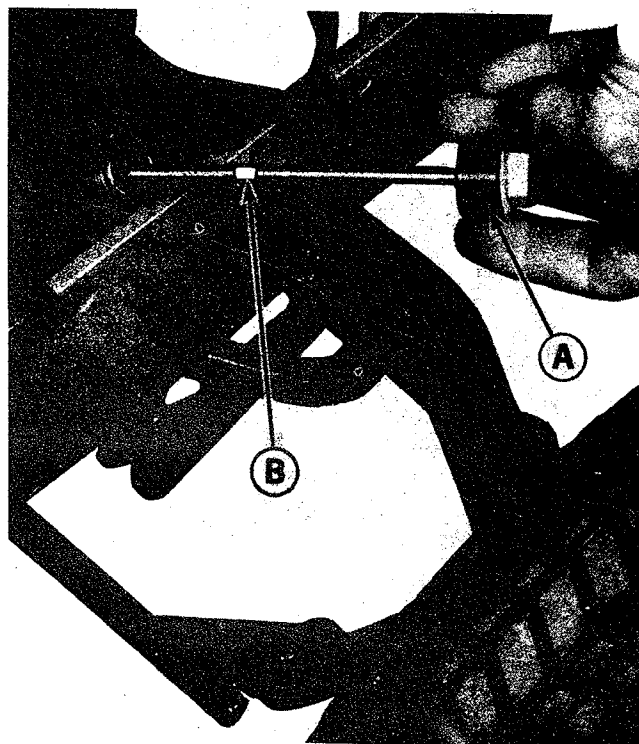

Figure 16. Checking the engine oil at right front of tractor.
CHECK ENGINE CRANKCASE OIL LEVEL: See figure 16. If the engine has been running, allow a minute or two for the oil to drain down into the crankcase before checking the oil level. Proceed as follows:
1. See figure 16. Turn the engine oil filler cap-dipstick (A) counter-clockwise and lift it out.
5. If the oil is below the full line (B) shown in figure 16, add enough oil to bring the oil level up to the full mark. Use the same grade and weight of oil which is already in the engine. **DO NOT OVERFILL THE CRANKCASE.**
4. See figure 16. Remove the filler cap-dipstick (A) and pour (2 quarts) of oil into the engine through the oil filler pipe, being careful not to allow any dirt or foreign material to contaminate the oil.
5. Check the oil level. It should show up to the full mark (B) on the dipstick.